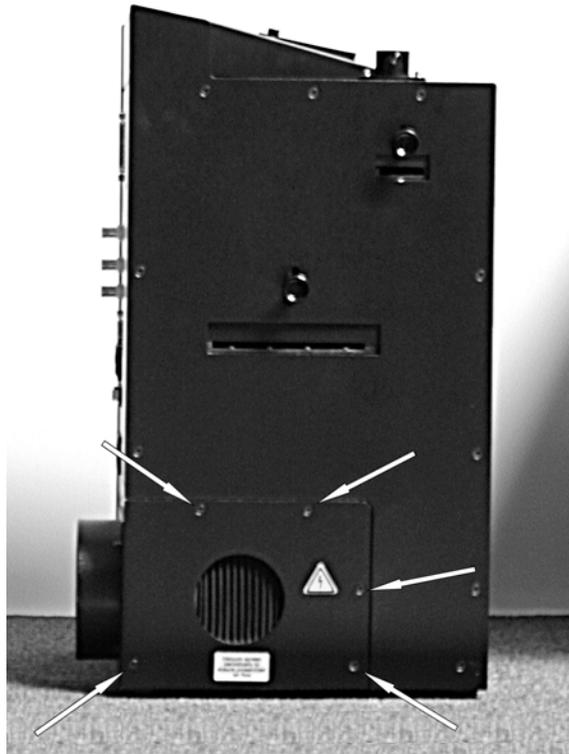

Figure 5-2. Lamp cover panel on left side of the Lambda DG-4/5-series cabinet.
1. Remove the five screws at the lower left corner of the left side panel (indicated by the arrows in Figure 5-2) and remove the lamp access door. This will expose a black cover panel with four knurled screws.